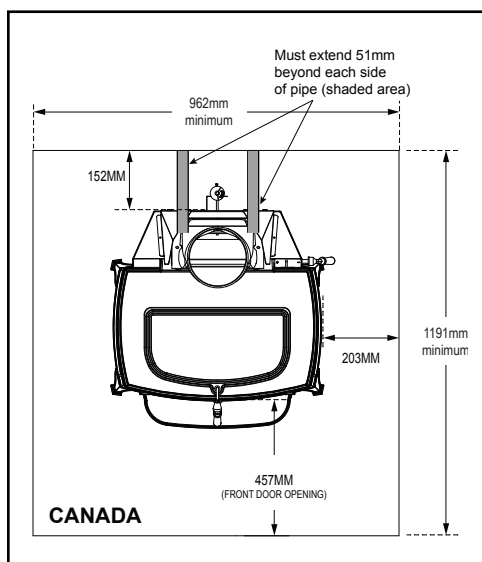

Figure 3.7
**\*EXCEPTION:** Non-combustible floor protections must extend beneath the flue pipe when installed with horizontal venting and extend 2" (51 mm) beyond each side. See Figure 3.7.